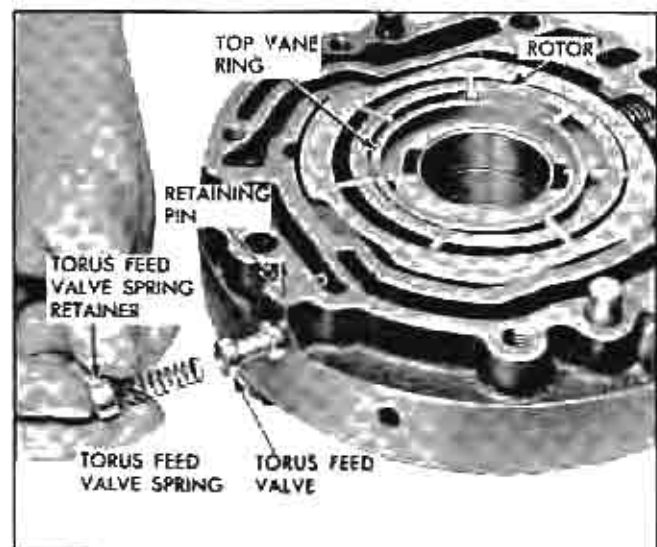

Fig. 101 Removing Torus Feed Valve
3. Using needle nose pliers, remove pin which holds torus feed valve retainer (place finger against retainer to prevent it from flying out). Remove retainer, spring and torus feed valve (Fig. 101). **NOTE:** If valve tends to stick, it may be removed after slide is removed.